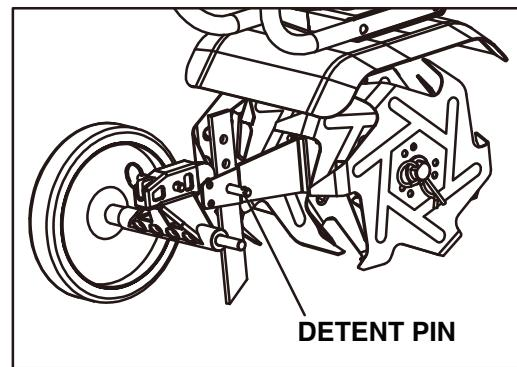

FIGURE 2
5. Reinsert detent pin (See Figure 2).